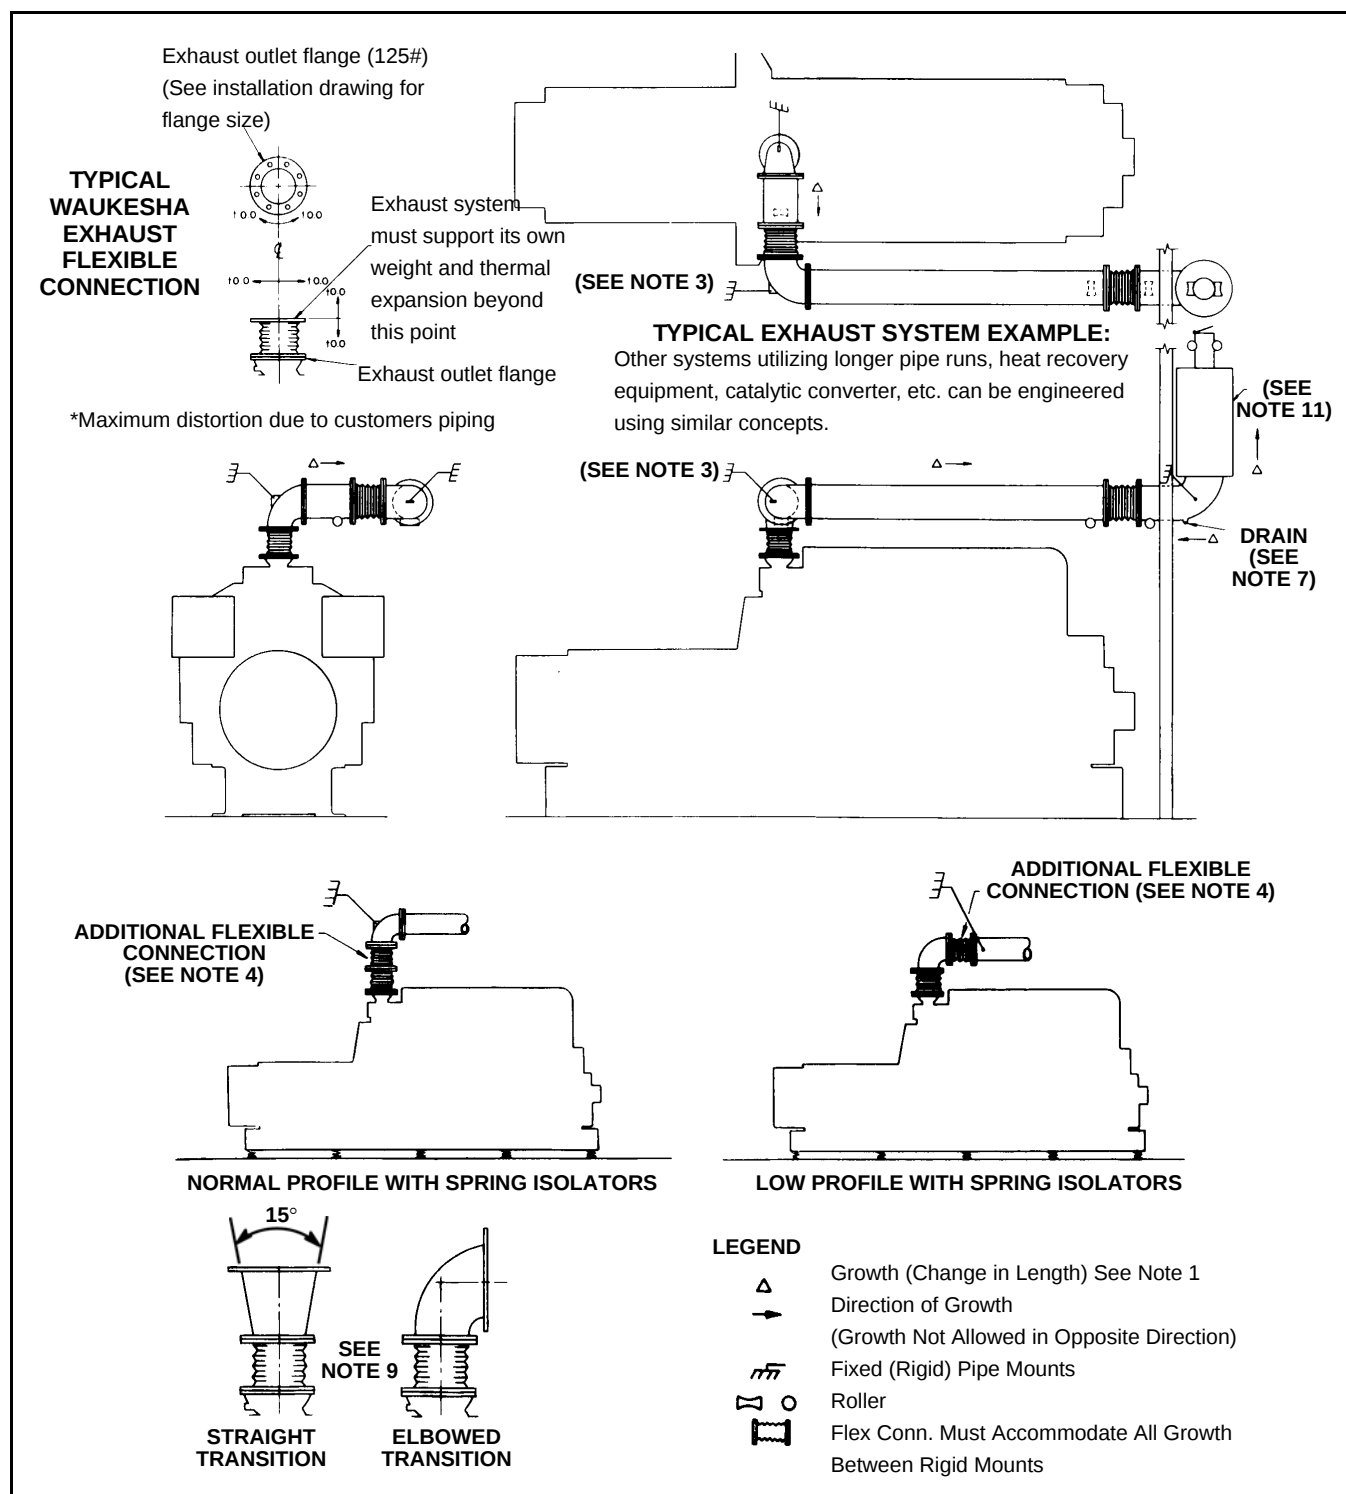

Figure 7-1 Waukesha Engine Installation Schematic
With exhaust gas temperatures reaching 1300° F, thermal growth can be considerable. The notes below refer to Figure 7-1 on page 7-4.
6. Utilize a combination of fixed supports, rollers and flexible connections to provide a well designed exhaust system. See the sketches in Figure 7-1 for additional concepts.